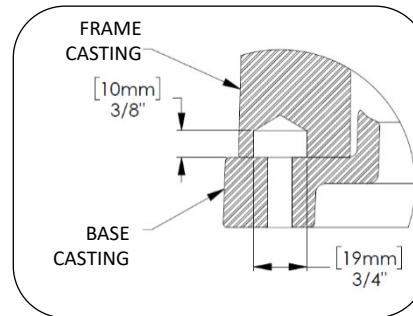

Fig. 3 – Base plate section view
- Anchoring hardware – (4) Ø5/16 [8mm] (maximum), with bolt head and washer not to exceed dimensions in Fig. 3. Maximum washer O.D. is 0.734".